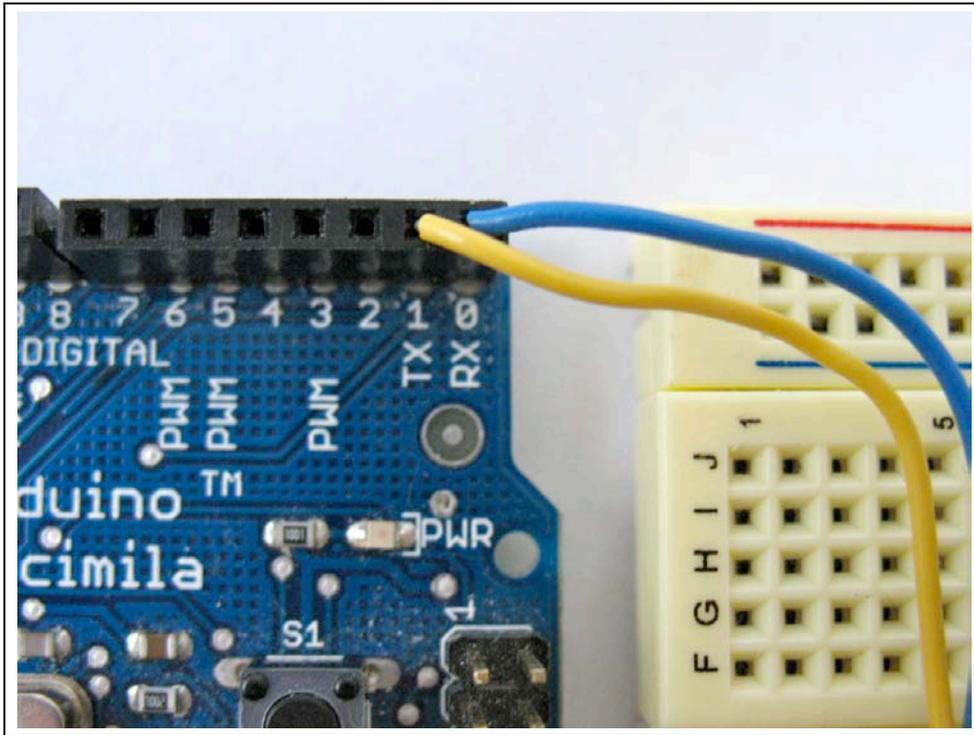

Figure 4. Transmit and Receive connections on Arduino
4. Use yellow (or another color) hookup wire to connect pin 2 (TX / DOUT) of the XBee to digital pin 0 (RX) on your Arduino (see Figure 4).